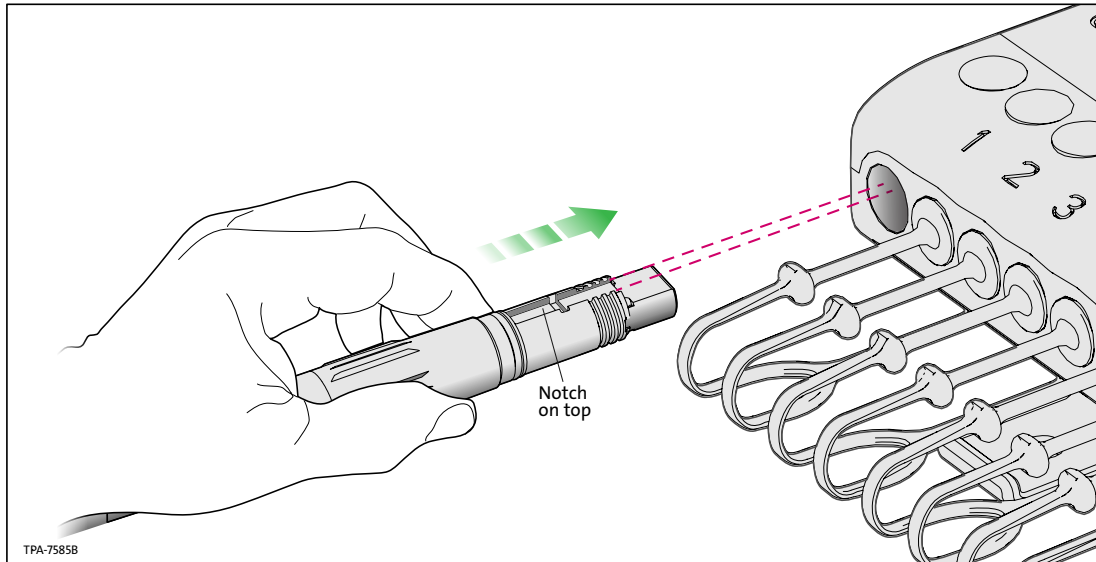

Figure 5
**Step 5:** Align the notch on top of the connector with the port button on the terminal. (Figure 5)